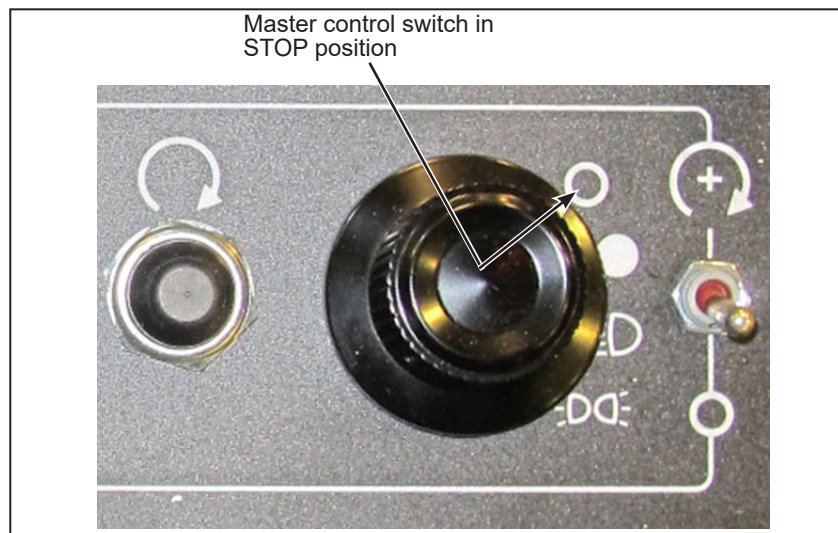

Figure 1 - Master Control Switch in STOP Position
- 1.3. On the master control switch, select the **ENG STOP** position (**O**) (see figure 1).